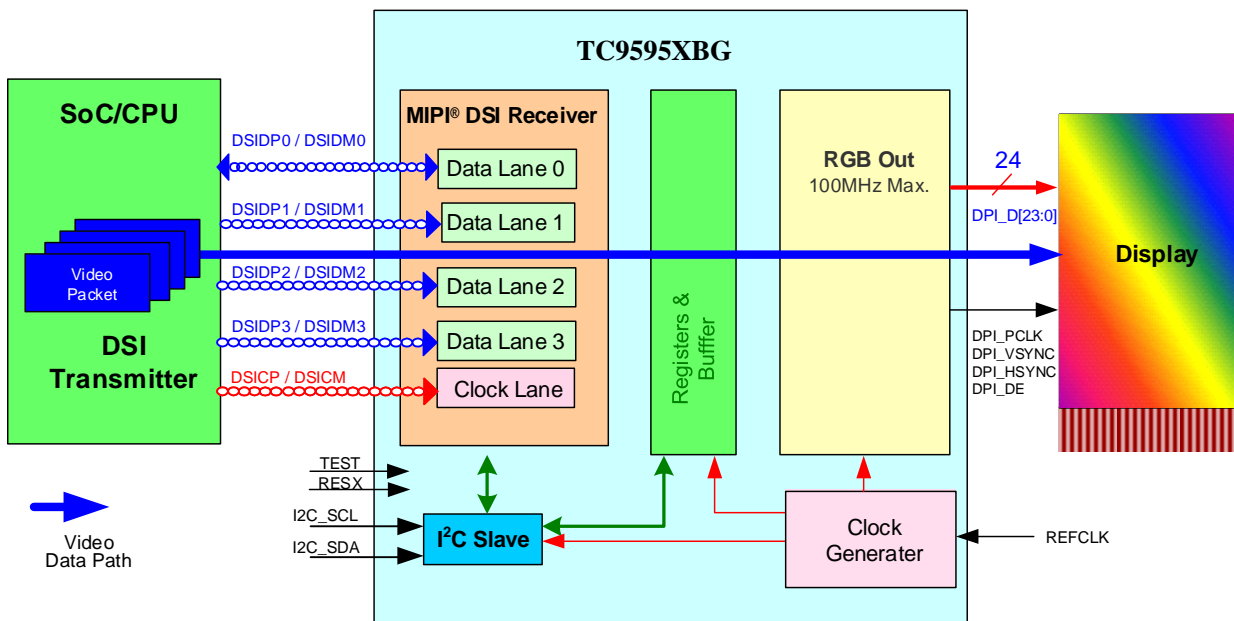

Figure 1.3 System Overview with TC9595XBG in MODE_S2P Configuration
- Mode_S2P: A system configuration where TC9595XBG may typically be used is shown in Figure 1.3. In this mode, DisplayPort™ output is not used and the chip rather behaves as a DSI to RGB convertor. In this system, TC9595XBG could be connected to a single display. In this configuration, the TC9595XBG can support displays with resolution up to WXGA (1280×800 or 1366×768). Maximum output PCLK is 100MHz. Video stream source is from DSI Host.